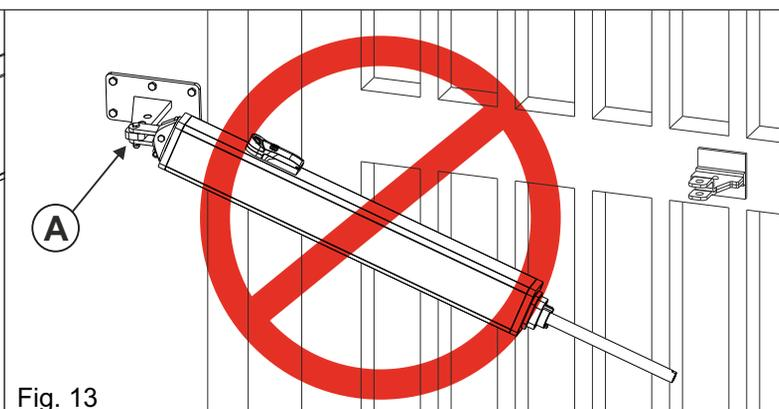

Fig. 13
**DO NOT tilt the operator further than the swing fork allowed angle «A» (Fig. 13)